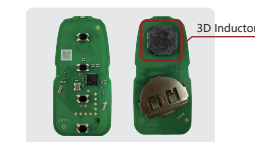

Fig. 3
- Smart key type remote:** Most of the key appearance is hidden key blade or without key blade. The circuit board has 3D inductor or 3 independent inductors, need to install the battery generation. (Fig. 3)